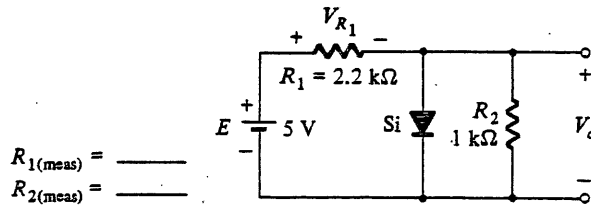

Figure 3-7
- d. Construct the network of Fig. 3.7. Record the measured value of each resistor.